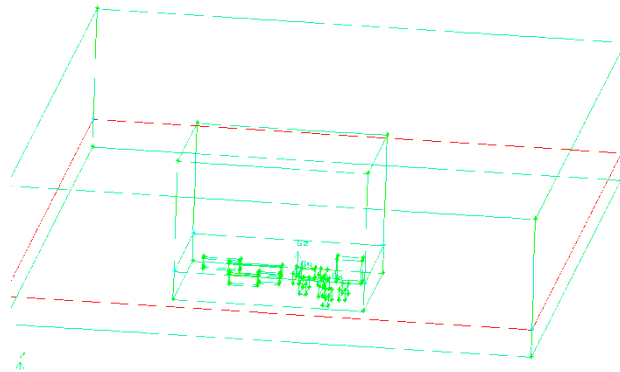

Fig. 29 The model after the split.
(2) Split the domain by the help face marked in red in Fig. 29.
- ⑤ Select face (real) to split with and pick the face marked in red in Fig. 29.
- ⑥ Apply.